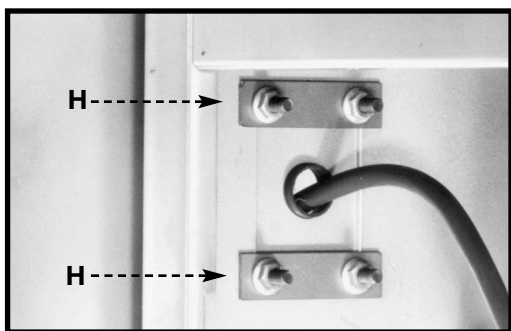

Fig. 6
NOTE: Position the switch adapter plates (H) inside the shaper cabinet (Fig. 6).